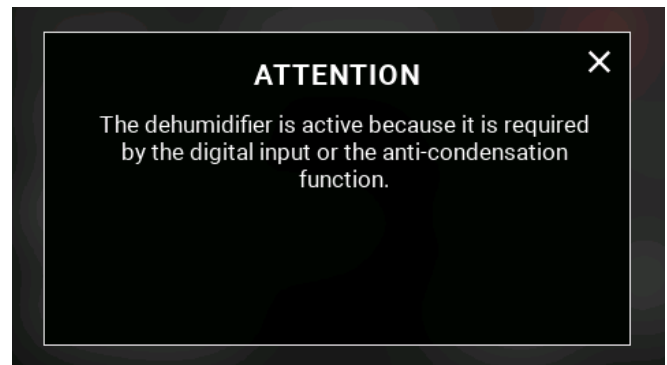

Figure 16-44: warning screen.
- If the switching off command is given, in the case when the dehumidifier is still on and the user attempts to switch it off again, and it is active because it is required by the digital input or the anti-condensation function, this screen appears (*fig.16-44*)